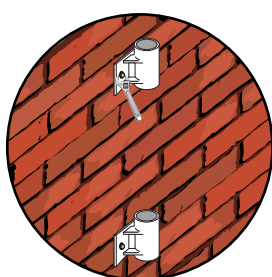

Fig 2.
2. Centralise the top bracket vertically above the bottom bracket with the specified distance between the holes as shown the chart on page 2. Drill and fix into position (Fig 2).